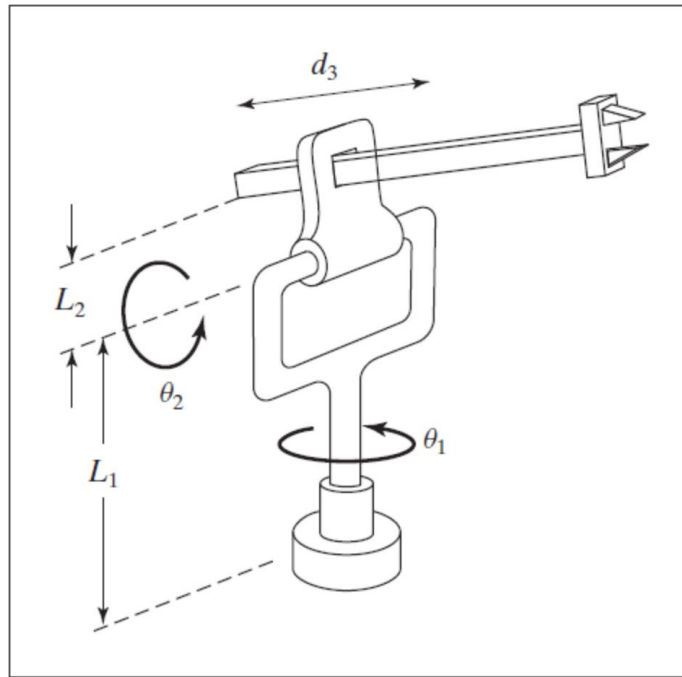

FIGURE 3.37: Three-link *RRP* manipulator (Exercise 3.17).
- 4.18** [15] Consider the *RRP* manipulator shown in Fig. 3.37. How many solutions do the (position) kinematic equations possess?